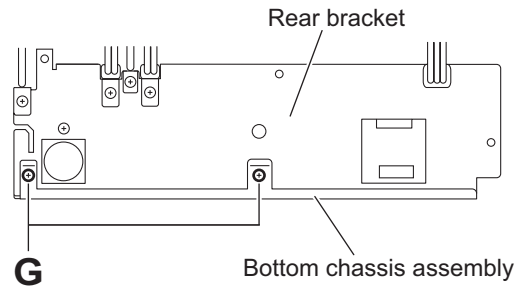

Fig.10
### 3.1.6 Removing the main board (See Figs.10 and 11)
- (1) From the rear side of the bottom chassis assembly, remove the two screws **G** attaching the rear bracket to the bottom chassis assembly. (See Fig.10)